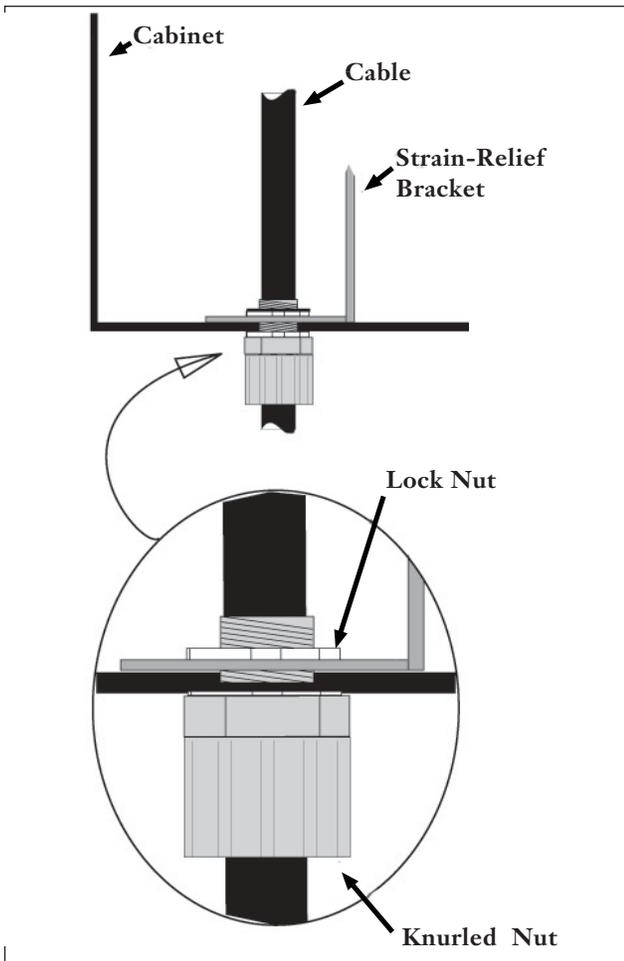

Figure 9
7.3 Install the liquid-tight connector and strain-relief bracket into the cabinet (Figure 9). Leave the knurled nut on the connector loose so cable can pass through the assembly and into the cabinet.